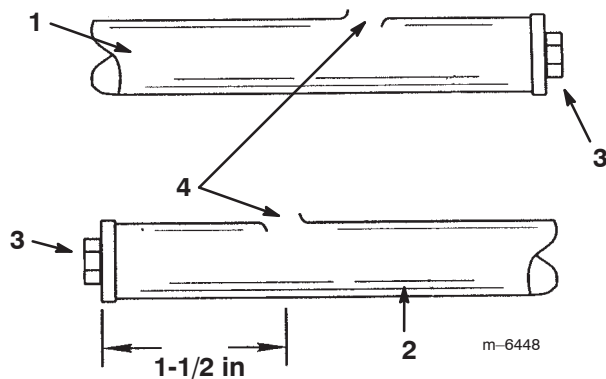

Figure 11
1. Locate, mark, and drill (through the top surface only) a hole (5/8 inch dia) 1-1/2 inch from the plugged end of the right boom pipe (Fig. 11).
3. Use a round file or deburring tool to deburr the holes you drilled in the boom pipes (Fig. 11).
4. Insert a drift punch into the 5/8 inch holes in the boom pipes and distort the openings as shown in Figure 11.